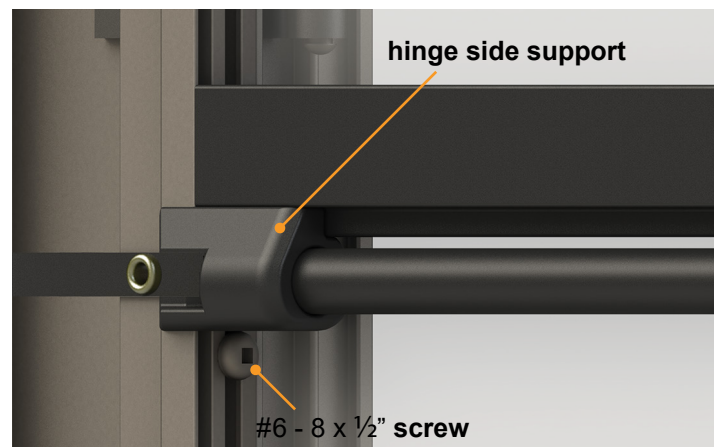

Fig.4
6. Install #6 - 8 x 1/2" screw underneath the hinge side support of the Screen Shot in the channel closest to the screen (Fig.4).